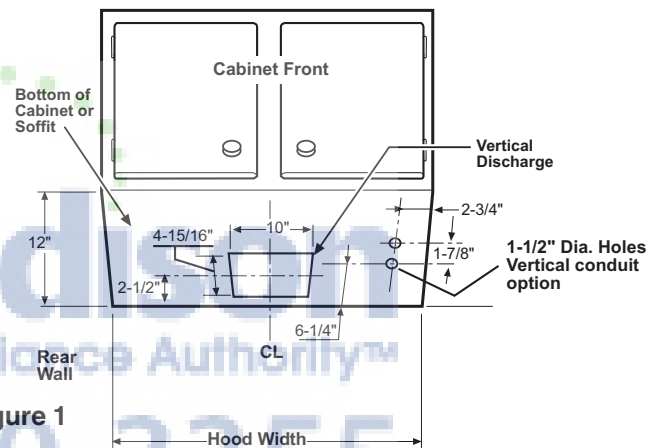

Figure 1
1. Prepare duct and conduit cut outs, see Fig.1,2,3 as needed.